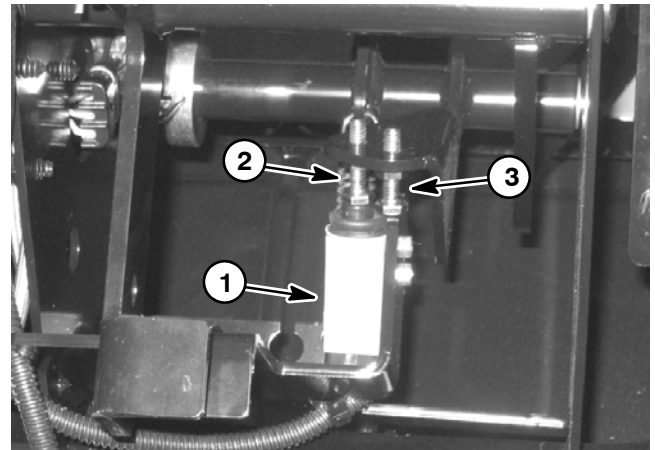

Figure 11
3. If distance is incorrect, loosen lock nut and adjust accelerator switch stop cap screw position (Fig. 11).